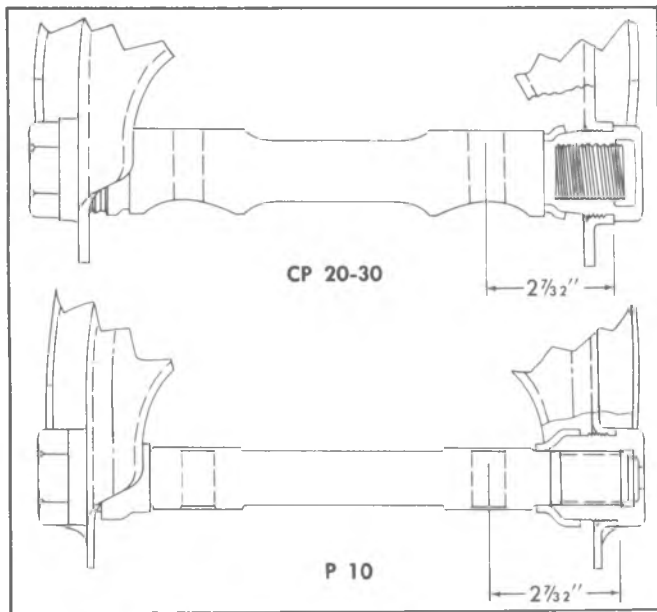

Fig. 3C-19--Positioning U.C.A. Shaft (Steel Bushings)
3. Start new bushings on shaft and into control arm. Adjust shaft until it is centered in control arm, then turn bushings in and torque to specifications. Check shaft for free rotation. Figure 3C-20 shows correct final positioning of shaft.